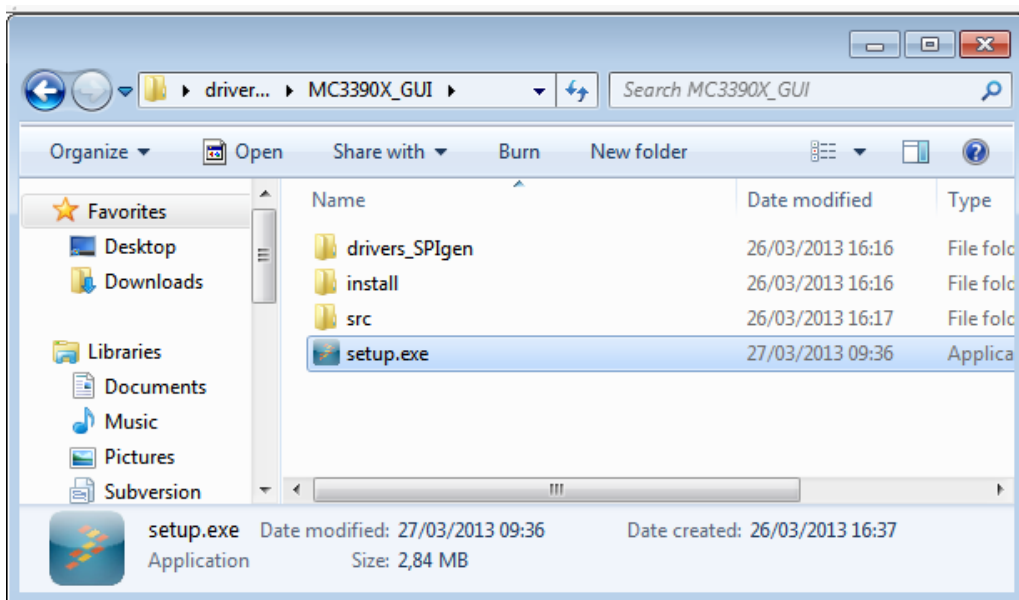

Figure 6. GUI Installation
2. Launch “setup.exe” as shown in Figure 6.